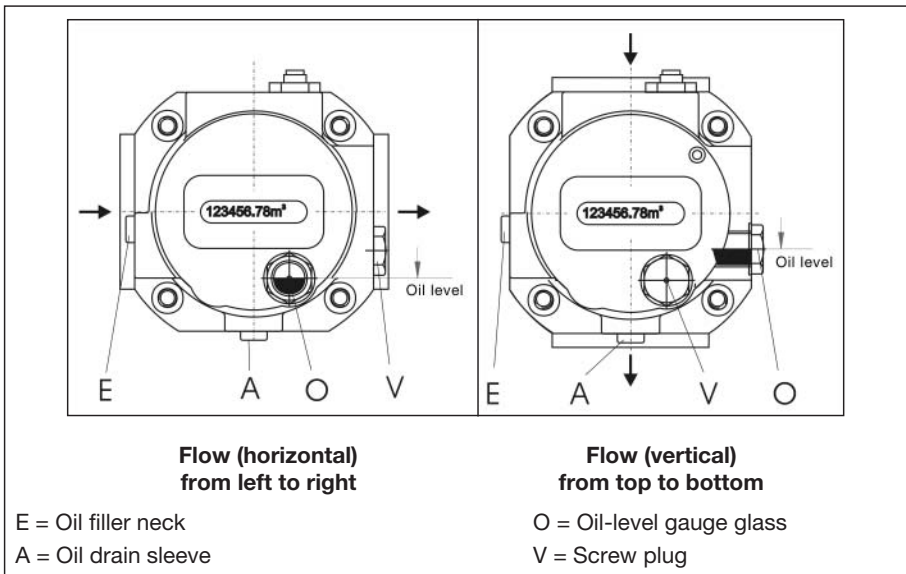

Figure 7: Horizontal and vertical installation positions, oil filling and oil-level display for **Type RVG-ST**
- In the case of **horizontal flow**, there are two openings available for filling with oil (E or V). The drain opening A is located at the lowest point. The oil-level gauge glass O is located on the front side of the meter, below the counter (Figure 7, left).
- In the case of **vertical flow**, there is only one opening available (E) for filling with oil. The drain opening A is located at the lowest point. The oil-level gauge glass is now located on the right on the front housing cover (Figure 7, right).